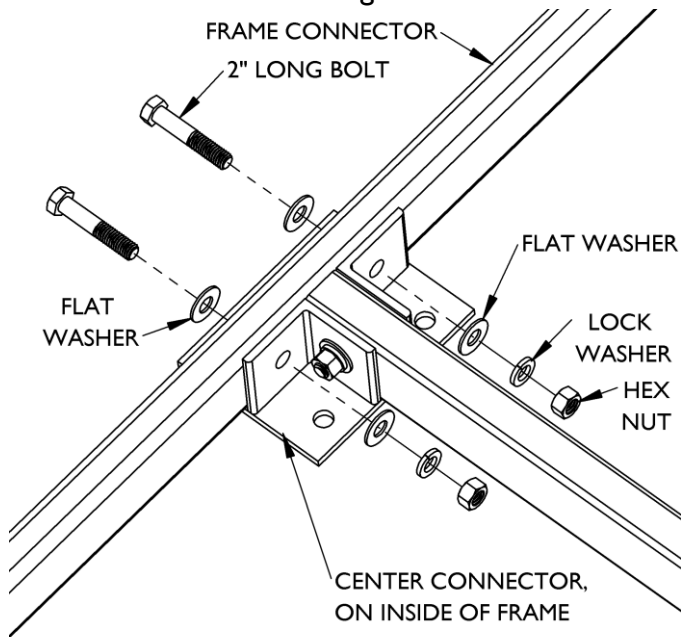

Figure 5
- Hand-fasten the center-connector assembly to each frame connector with two 2" long bolts as shown in Figure 5.